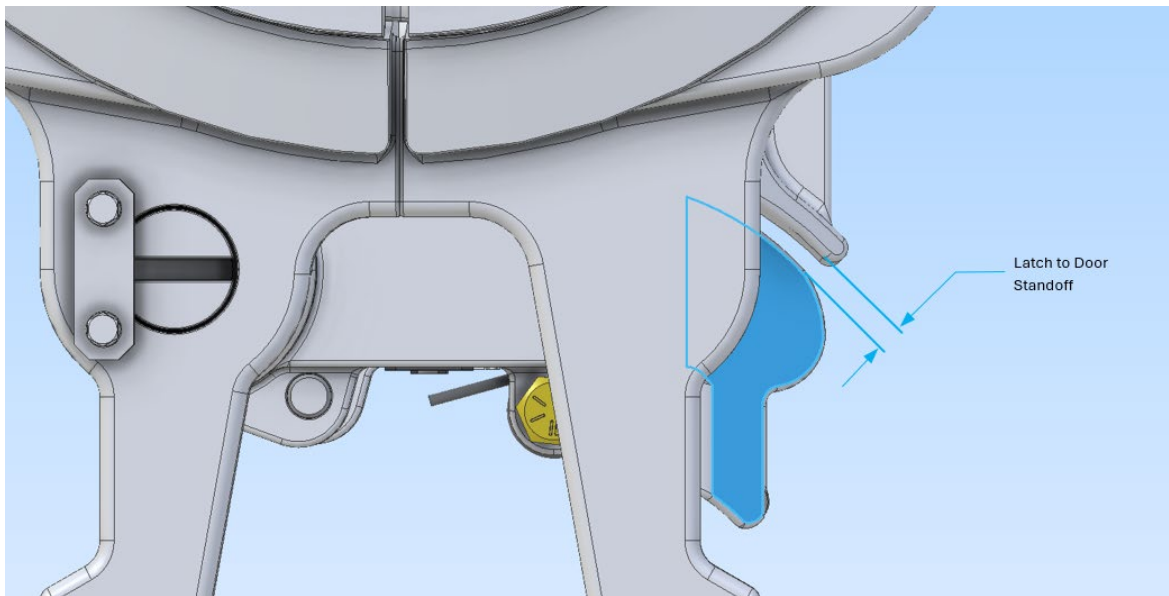

Figure 2
- ▶ The latch standoff from the door should be at a **minimum** of 3/8” and **maximum** of 7/8” (see figure 2)